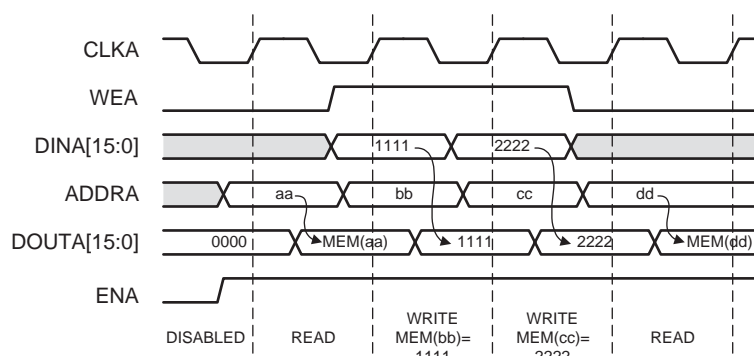

Figure 26: Write First Mode Example
- **Write First Mode:** In WRITE\_FIRST mode, the input data is simultaneously written into memory and driven on the data output, as shown in Figure 26. This transparent mode offers the flexibility of using the data output bus during a Write operation on the same port.